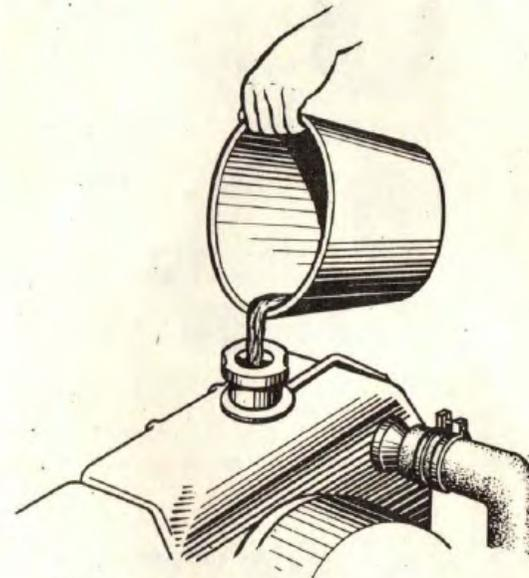

Fig.9. Topping Up Cooling System
1. Open the radiator cap and check water level. If water is not visible through the filler, top up to overflow pipe (Fig.9). Avoid using hard water as it causes heavy scale deposits. Check the drain cocks and the connections for water leaks.